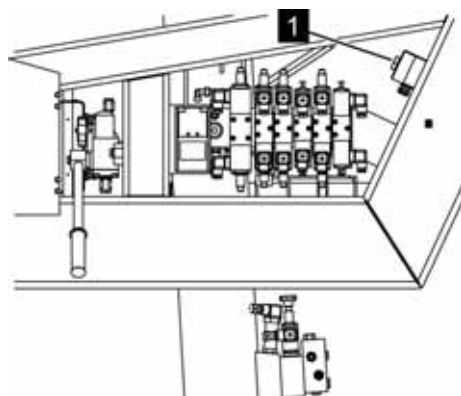

Fig. 118: Service operation button
*For operation by 2 people: Instead of locking the shuttle valve (Fig. 118/2), the service button can be pressed by the second person.*